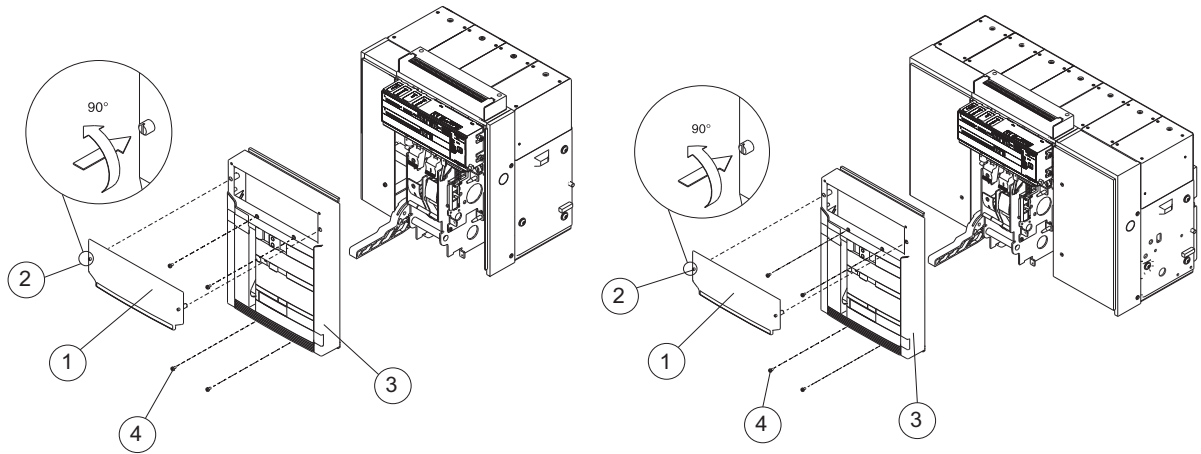

Fig. 33
- The tab (1) of the release by rotating the screws (2) as shown in figure 33.
- Remove the front cap (3) by loosening the four screws (4).